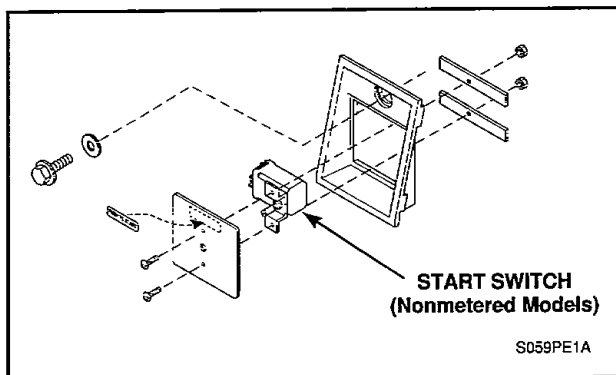

Figure 1
1. START SWITCH — Nonmetered Models (Refer to *Figure 1*)